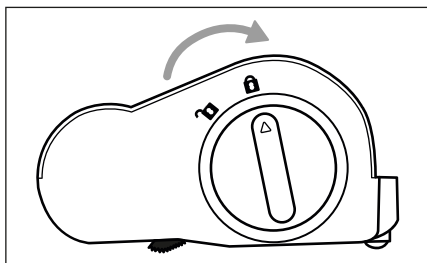

Fig. 25
- 5) Insert the rotary brush **19** into the floor brush **20** and turn the rotary brush release **18** in the direction of the symbol **1** (close) (see Fig. 25).